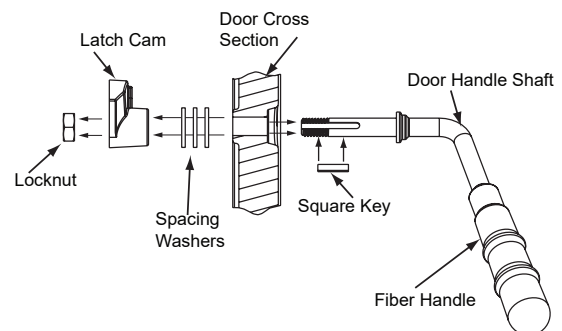

Figure 24.4 - Door Handle for Arched Door
3. Install additional washer(s) as shown in **Figure 24.4**.
7. Install handle turning in a counter-clockwise motion to desired location on door handle rod (**Figure 24.4**).